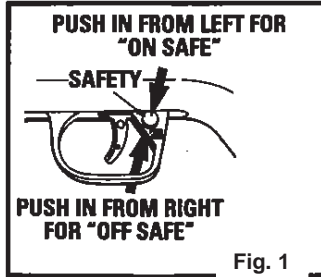

Fig. 1
- Push the safety from the left side all the way in (Fig. 1). The safety is not "On Safe" unless it is pushed all the way in and the RED ring around the safety is NOT showing.